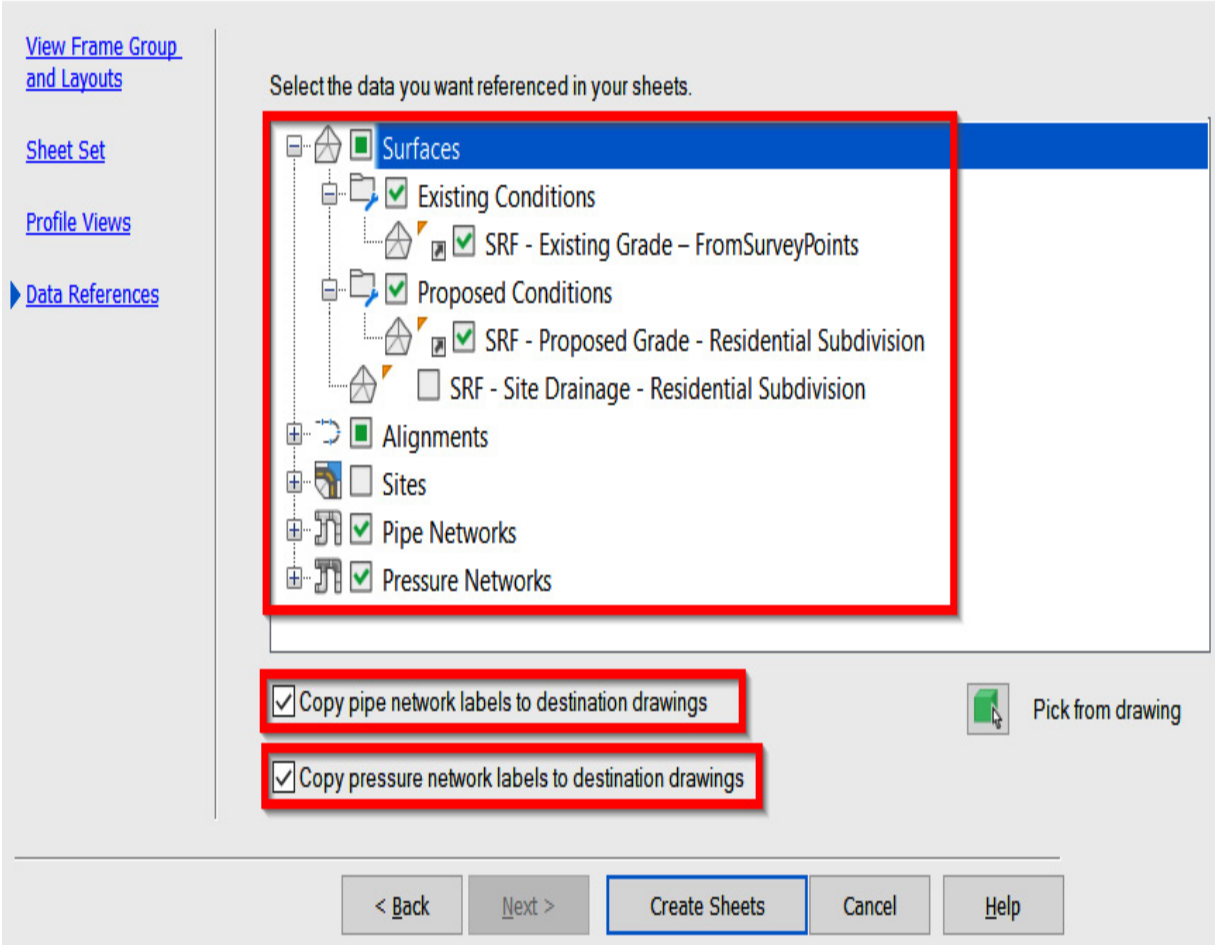

Figure 14.26 - Create Sheets dialog box - Date References
**4. Data References** (as displayed in *Figure 14.26*):